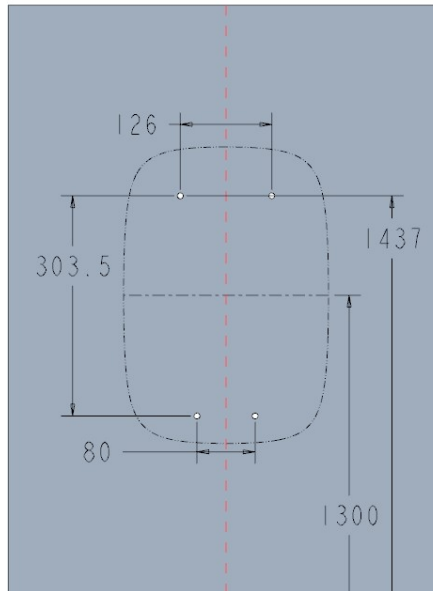

Figure A-11 Wall drilling center distance
2. As shown in Figure A-11, the center distance of the wall drilling hole, place the punching template at a suitable height, and mark the punching position on the wall with a pencil.